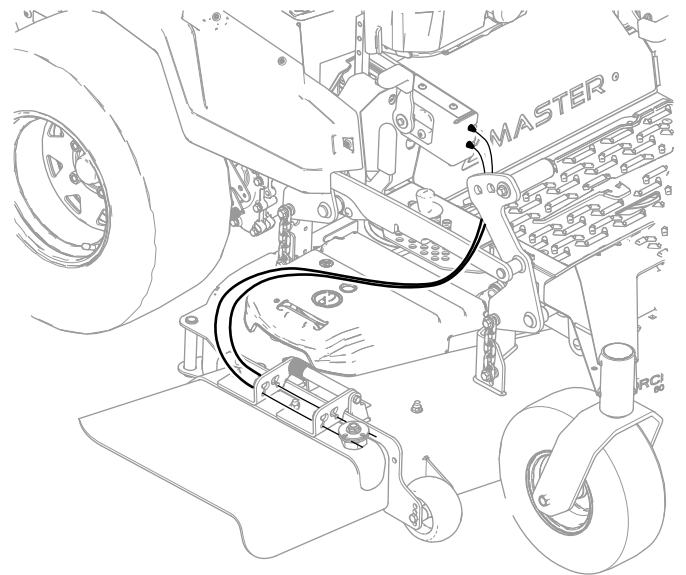

Figure 9
2. Route the cables between the control box and discharge chute as shown in Figure 9 to avoid damaging the cables through the entire height-of-cut range.
Important: Ensure that you route the cables away from the front of the deck-lift pedal as shown in Figure 9 so that you do not damage the cables.